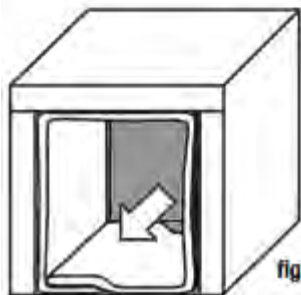

fig. 6
8. Install the Thinsulate™ Acoustic Insulation (fig. 6)